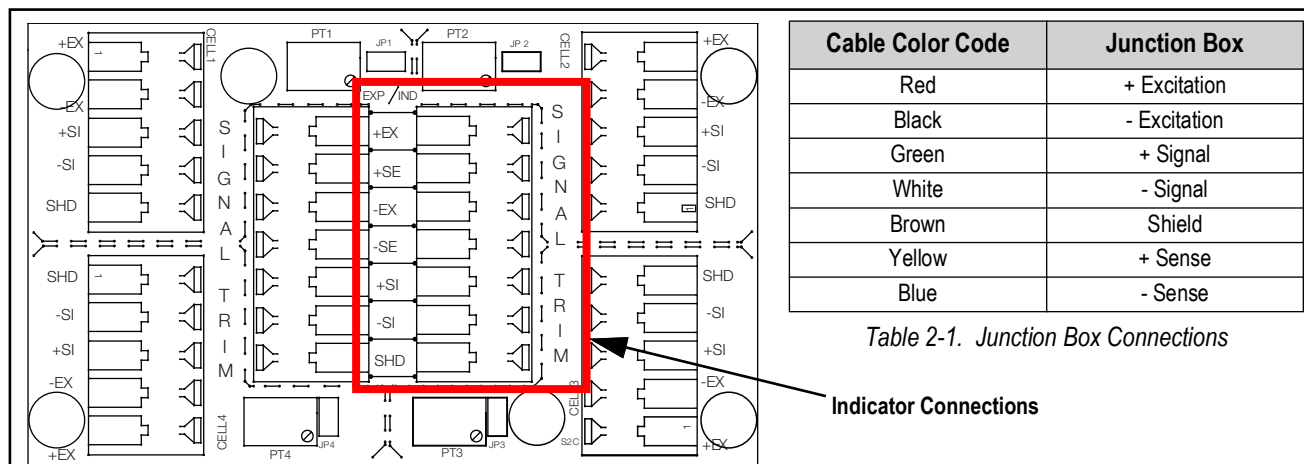
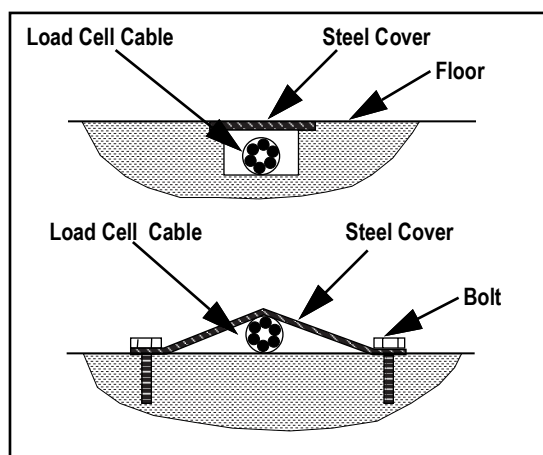

Figure 2-6. Junction Box Terminal Blocks with Indicator Connectors Identified
Figure 2-7. Interface Cable Protection
The junction box terminal block (Figure 2-6 on page 11) is used to connect four load cells and the main cable to the indicator. Each scale kit includes 20 ft (6.1 m) of 6-wire cable to connect the junction box to an indicator. The interface cable between the scale and the indicator must be protected against crushing, cutting or moisture damage (Figure 2-7 on page 11). Perform the following to complete junction box connections:
6. Connect the wires to the required terminals as indicated in Figure 2-6.